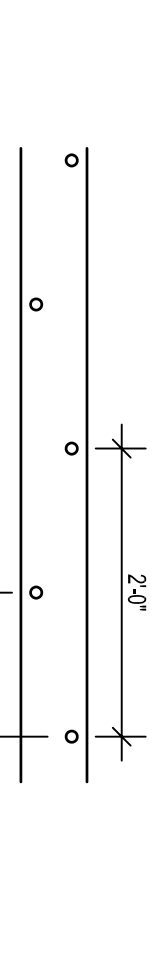

FIGURE 3
**Caution:** Attention should be paid to the Factory Mutual requirement which calls for galvanized steel washers (minimum 3/8 inch outside diameter) to be used in conjunction with galvanized screws. This requirement is not recognized in most cases and most often forgotten. The staggered fastening pattern should be increased within 8 feet from outside corners as shown in Figure 3.
The increased fastening density within 8 feet from outside corners is still required and must comply with Figure 3.